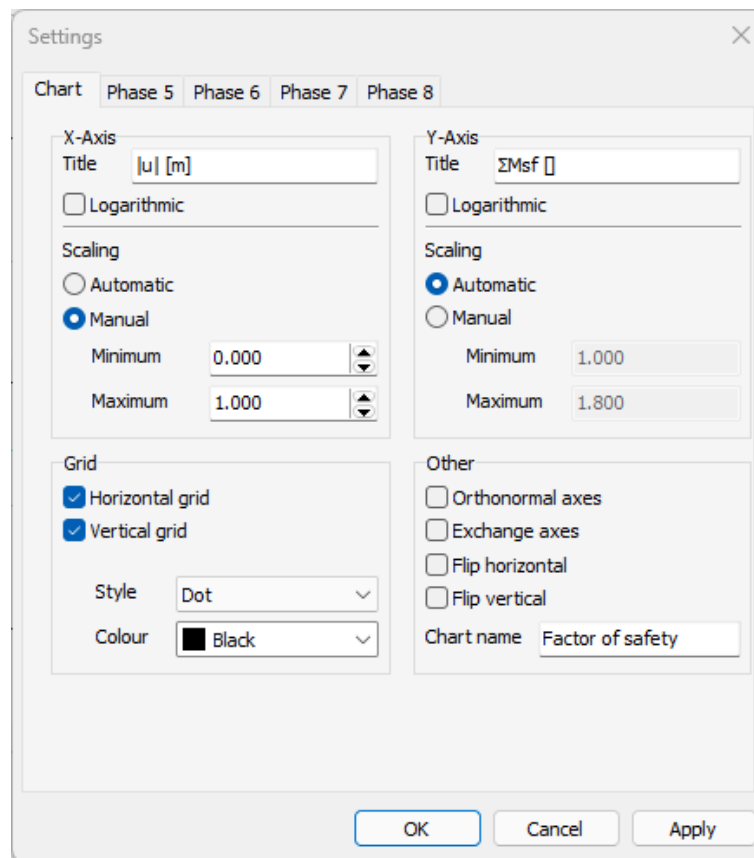

Figure 9–20: The Chart tabsheet in the Settings window
- 13 Set the scaling of the x-axis to **Manual** and set the value of **Maximum** to 1 as shown in Figure 9–20 \(p. 162\):
- 17 The legend can be relocated in the chart by dragging it. The plot is shown in Figure 9–21 \(p. 163\):